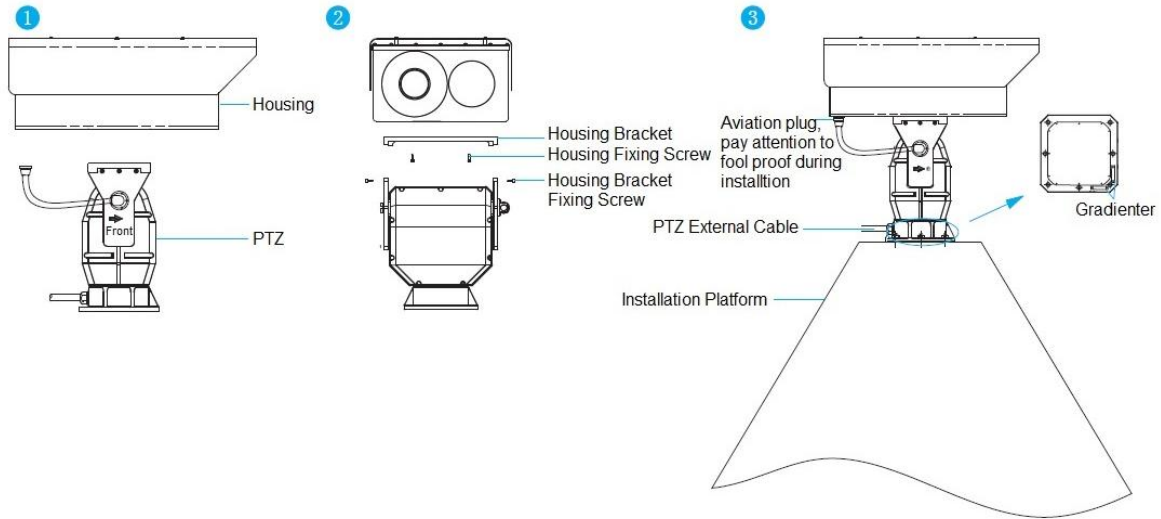

Figure 3-1
The “Front” logo is printed on the side of the PTZ (shown in Figure 3-1 ①), pay attention not to install in a wrong direction, make sure the arrow direction is in accordance with the indication direction.